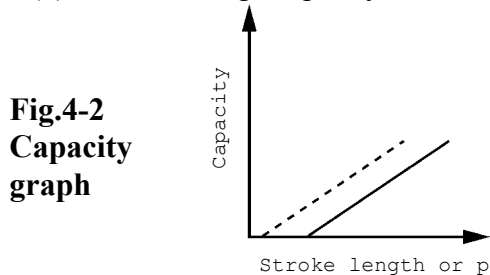

Fig.4-2 Capacity graph
(2) The discharge capacity is small as shown in Fig. 4-2.